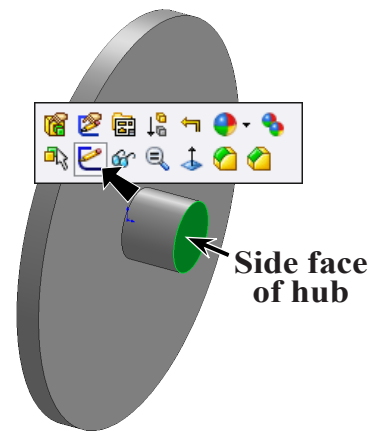
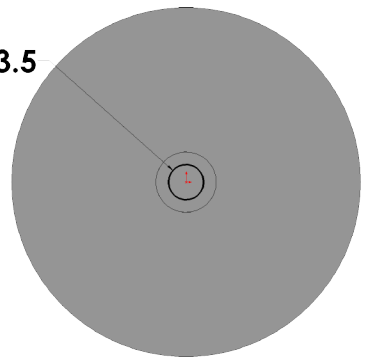

Fig. 8
Fig. 9
Step 1. Click the **side face of hub** and click **Sketch**  on the Context toolbar, **Fig. 8**.
Step 3. Click **Circle**  (S) on the Sketch toolbar.
Step 4. Draw a circle for the hole at Origin , **Fig. 9**.
Step 5. Click **Smart Dimension**  (S) on the Sketch toolbar.
Step 6. Dimension axle **diameter 3.5**, **Fig. 9**.